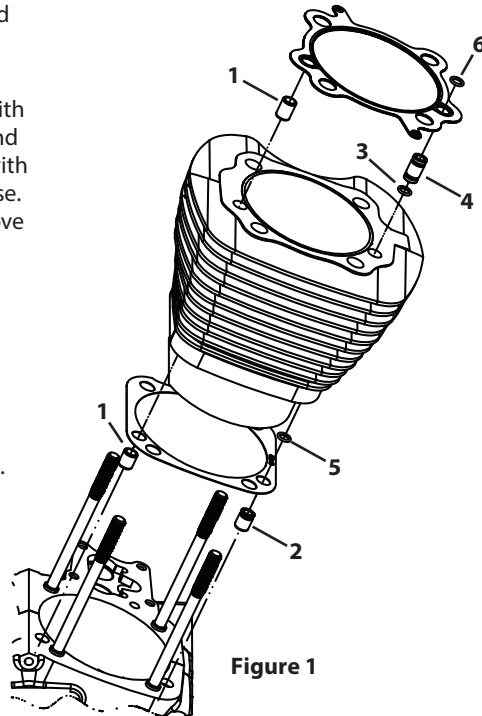

Figure 1
1. If crankcases or cylinders have stock dowels installed in these positions, they must be removed. Leave the existing inner crankcase to cylinder and cylinder to head dowel pins in place. See #1 in **Figure 1**,